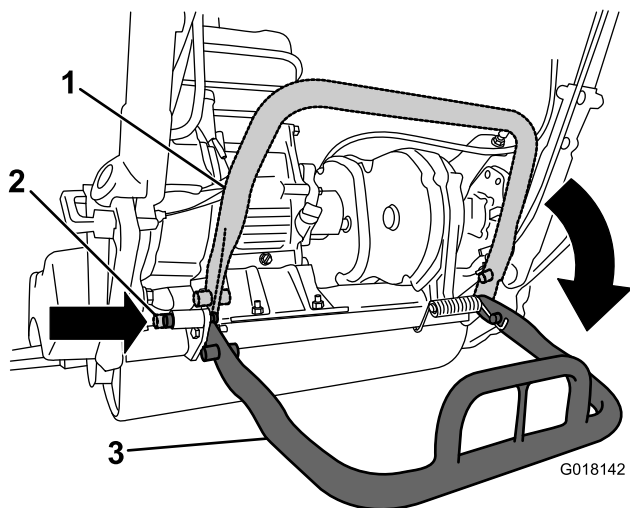

Figure 3
2. Lower the kick stand and push in the locking pin to lock the kick stand in the service position (Figure 3).